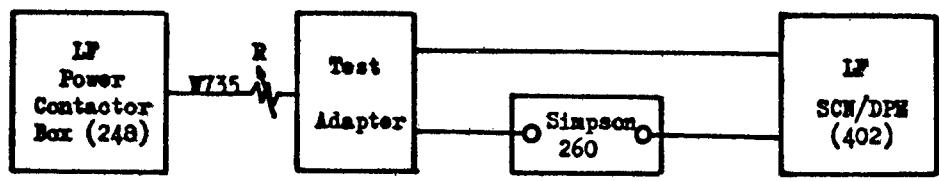

Figure 3.2.1.7-1
- 3.1 Connect the equipment as shown in Figure 3.2.2.2-1 with instrumentation per Figure 3.2.1.8-1.